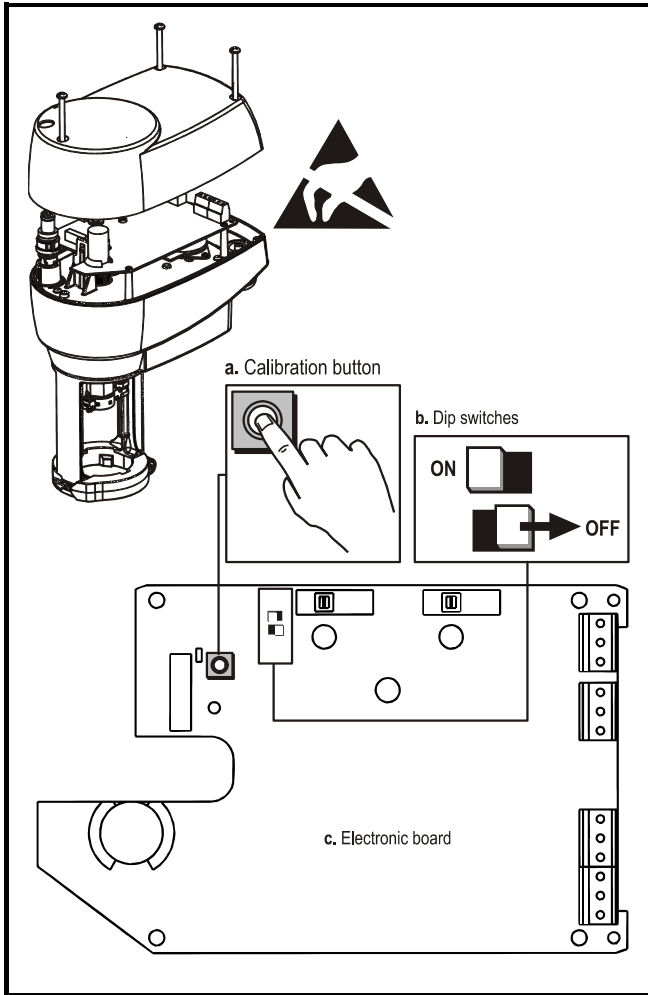

Figure 4:
To start the auto calibration cycle push and hold the button for at least 3 seconds (see figure 4). The LED flashes rapidly during the entire procedure. The actuator will make one full cycle to detect the stem extended and retracted limits. The end stroke indicators are automatically placed at the stroke limits. When the procedure ends, the actuator switches back to its operating mode and reaches the position corresponding to the input signal value. The LED shows steady green when the position is achieved. If the control-signal changes, the actuator stem will move to the new position. During stem movement the LED flashes green
To start the auto calibration cycle push and hold the button for at least 3 seconds (**see figure 4**). The LED flashes rapidly during the entire procedure. The actuator will make one full cycle to detect the stem extended and retracted limits. The end stroke indicators are automatically placed at the stroke limits. The actuator will make a full cycle to detect the stem extended and retracted limits and the end stroke indicators automatically pushed to the stroke limits. Enter the desired signal range while the actuator performs the auto calibration. Enter the desired parameters as follows:
- Set the Minimum input signal (start-point), which can be from 0...6 V DC (0...12 mA) and confirm by pressing the button (**see figure 4**).
The DIP switches (*see Fig. 4*) permit easy in-situ setting of operational parameters without the need for any other configuration device.